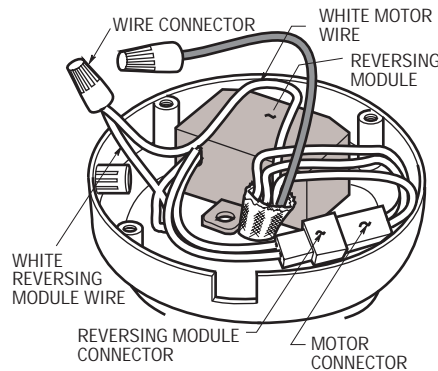

Figure 6
**9. Position the reversing module (supplied) in the switch cup; connect the reversing module connector to the motor connector (Figure 6). The connectors are color-coded and keyed and can be connected in only one manner.**
**10. Using a wire connector (supplied), connect the white wire from the motor to the reversing module white wire (Figure 6).**